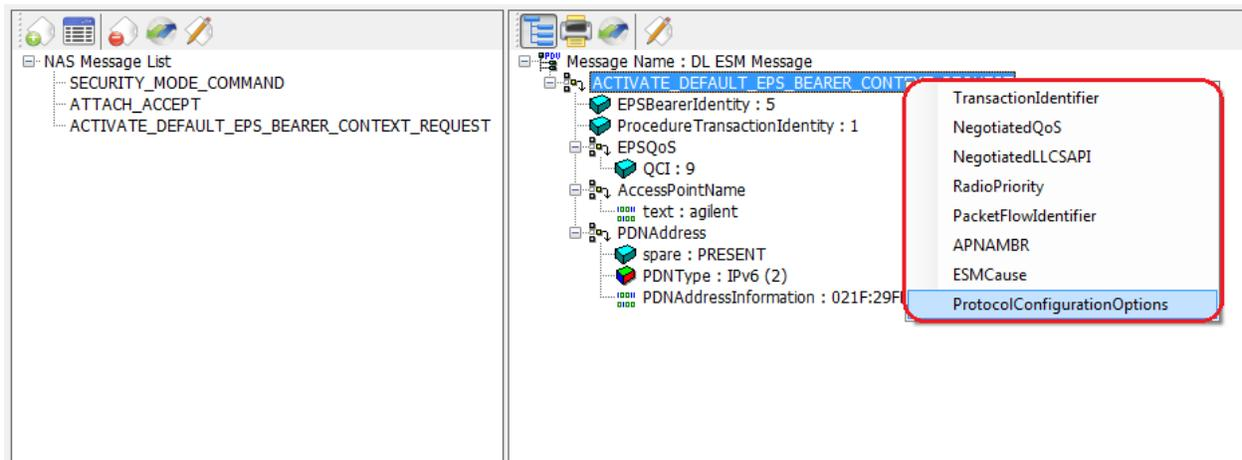

Figure 7-25: DUT IP Address Additional Information Options
2. Right-click on ContainerId, select “Value Change” and then access the additional information element options shown in figure 7-25 by selecting the drop-down list.